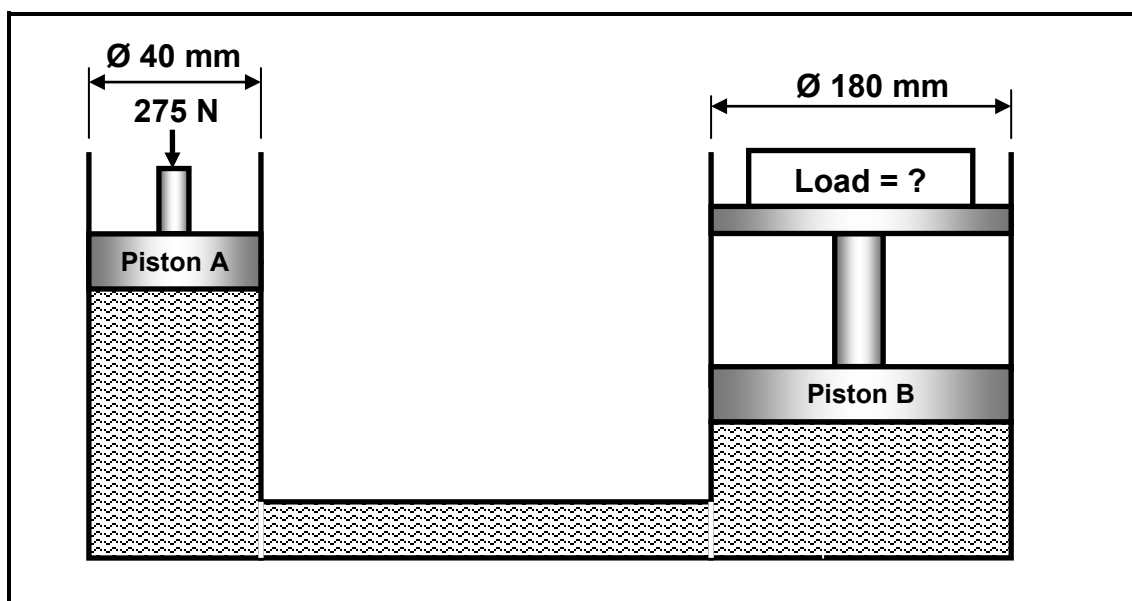

FIGURE 9.3
9.3 A hydraulic system is being used to lift a machine part into position. The specifications of the system are diagrammatically represented in FIGURE 9.3.